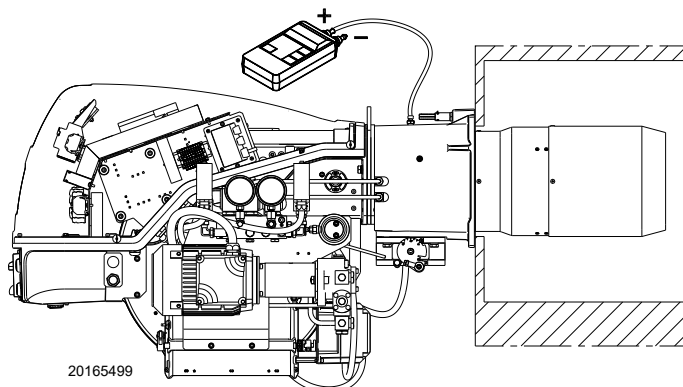

Fig. 47
- fit a U-type manometer (Fig. 47) to the gas pressure test point on the sleeve.